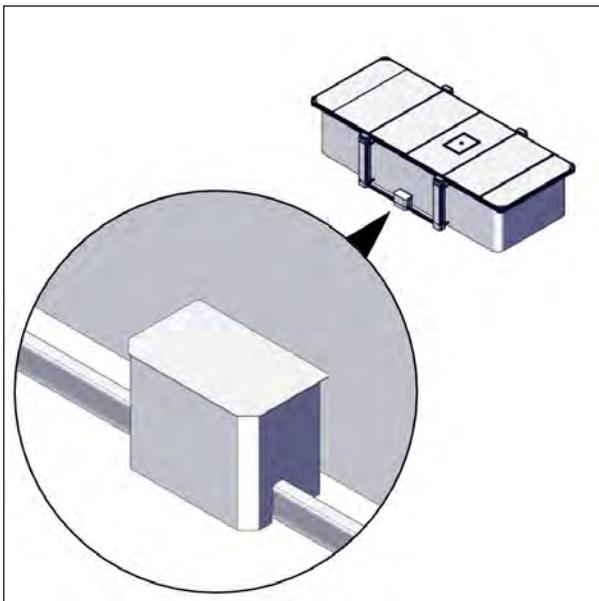

FIGURE 110: CONTROL BOX HOUSING INSTALLATION
6. Slide the control box housing onto the U-frame, see Figure 110.